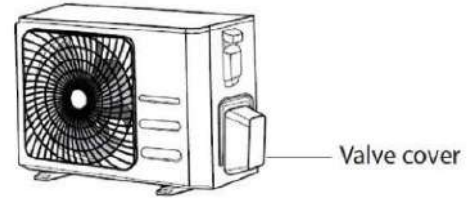

Fig. 5.9
1. Unscrew the cover from the packed valve on the side of the outdoor unit (see Fig. 5.9).